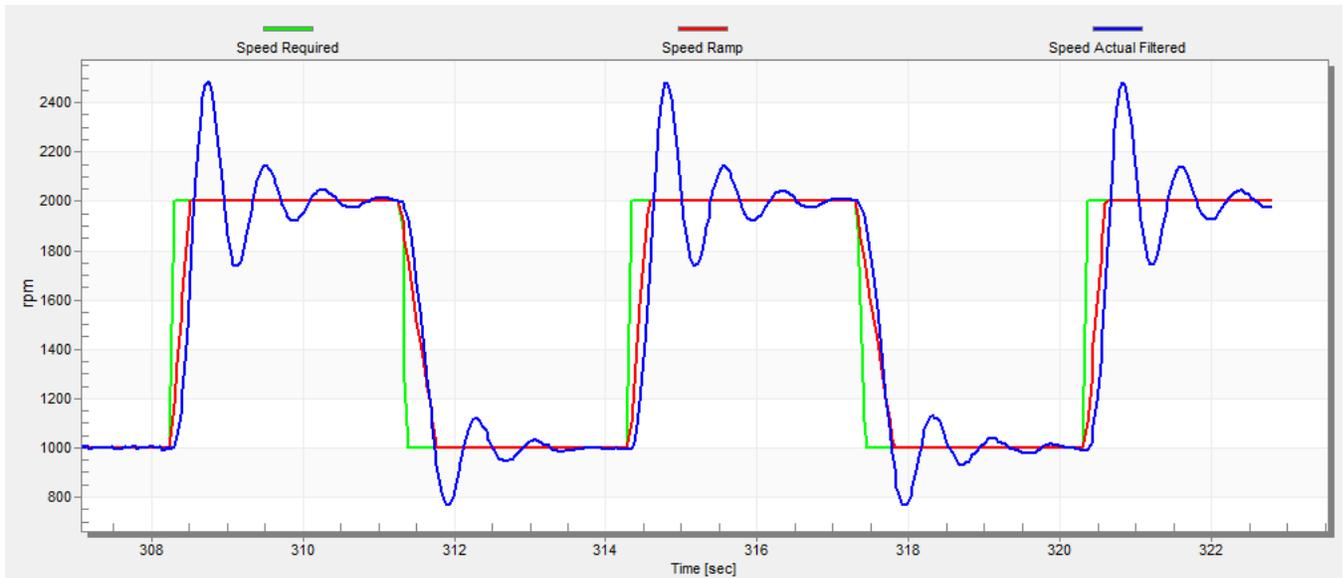

Figure 49. Speed Controller Response— SL_Kp value is low, Speed Actual Filtered greatly overshoots
- The “SL_Kp” value is low, the “Speed Actual Filtered” greatly overshoots, and the long settling time is unwanted (see Figure 49).